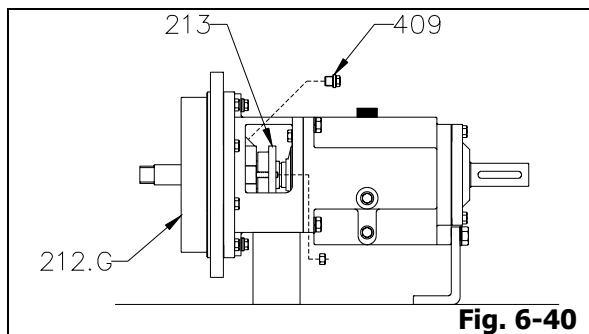

Fig. 6-40
1. Remove all connection plugs (409) or/and piping adaptors from stuffing box cover (212.G).
2. Remove two (2) gland nuts from gland studs and remove gland (213) from stuffing box cover (212.G) (Fig. 6-40).